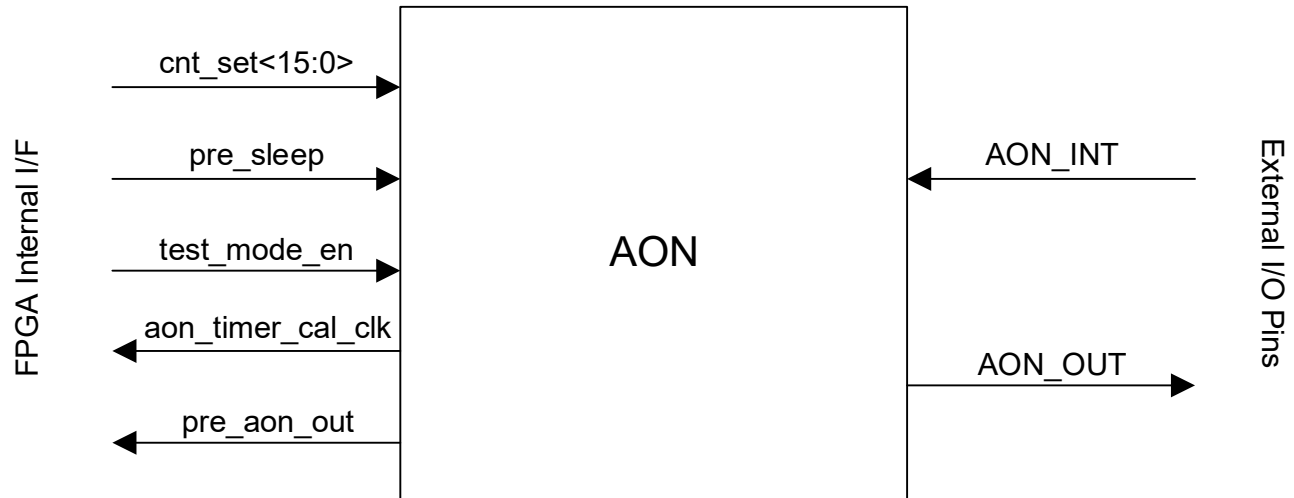

Figure 2.24. AON Functional Block Diagram
The Hardware (HW) AON block in LIFCL-33U is provided to support low power application, where the main FPGA device can be put in the power down state while the AON block continues to operate as a wake-up timer. The auxiliary power (always on power domain) to the AON block is provided by the dedicated VCCAUX\_AON supply rail. This is isolated from the rest of the FPGA power domain that can be turned off for low power applications. The AON\_OUT output pin is provided to control the external power switch and AON\_INT is provided to interrupt or to override the power down state. Both external signals follow the 1.8 V LVC MOS I/O standard. Figure 2.24 shows the high-level block diagram with internal FPGA internal interface control signals for the AON block. Table 2.13 provides descriptions of the AON ports.